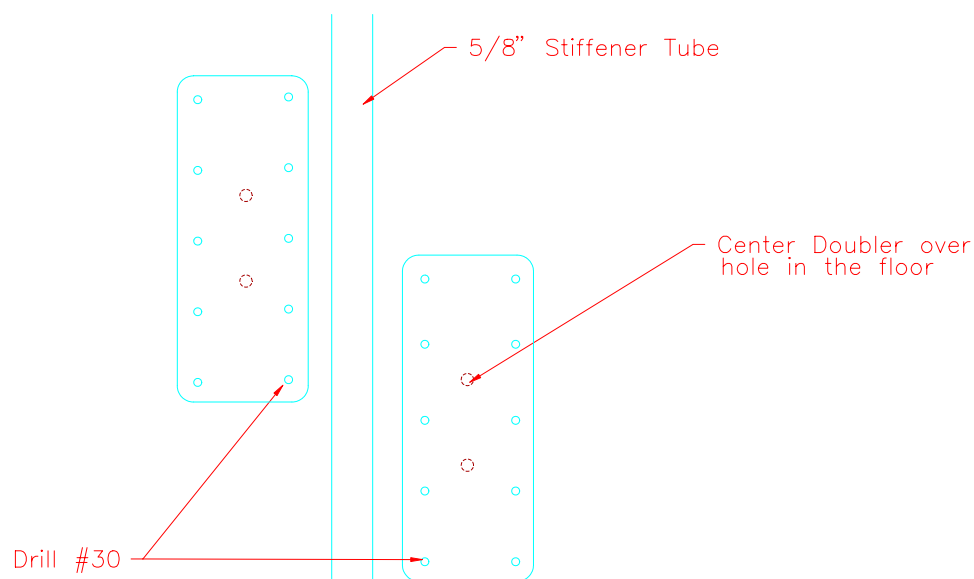

Figure 4
27) Center the doublers over the holes you just drilled into the floor for the bearing blocks. Layout and drill a #30 rivet pattern around the outer edge of each of the doublers. Cleco the doublers to the floor. Figure 4.